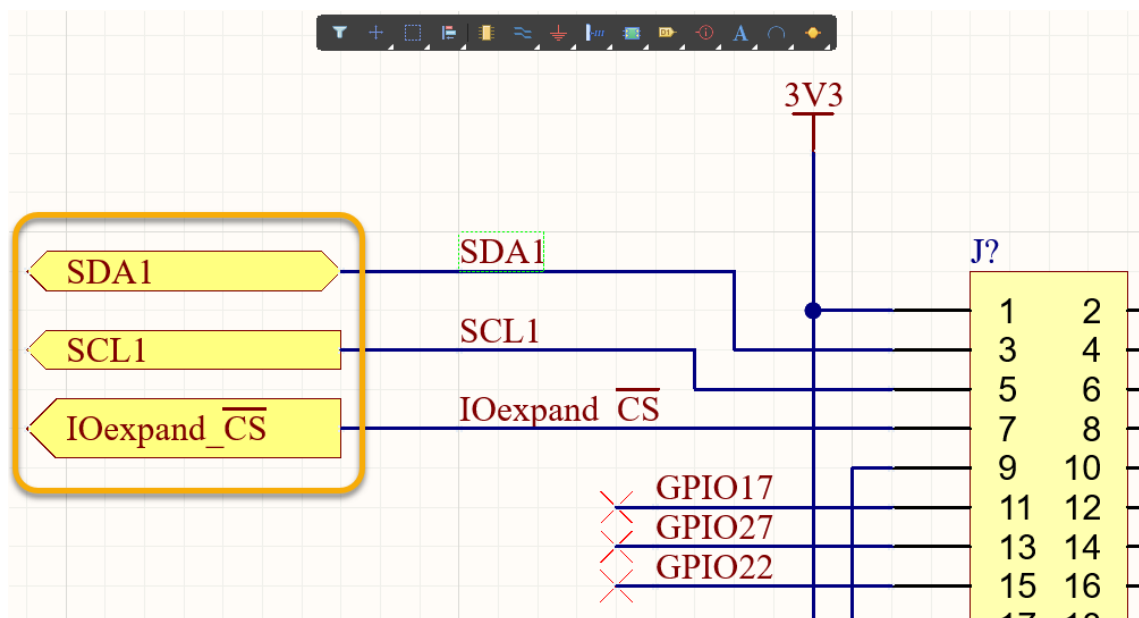

Figure 27. Signal Ports
38. Continue to place the remaining two ports as shown in Figure 27. Port **SDA1** should be set as **Bidirectional**, and port **SCL1** should be set as **Output**. Ports will automatically show their I/O type direction (such as Input, Output) once the placement is complete. The best way to place ports, is to set the I/O Type in the Properties panel during initial placement, although it is still possible to change port properties after placement.